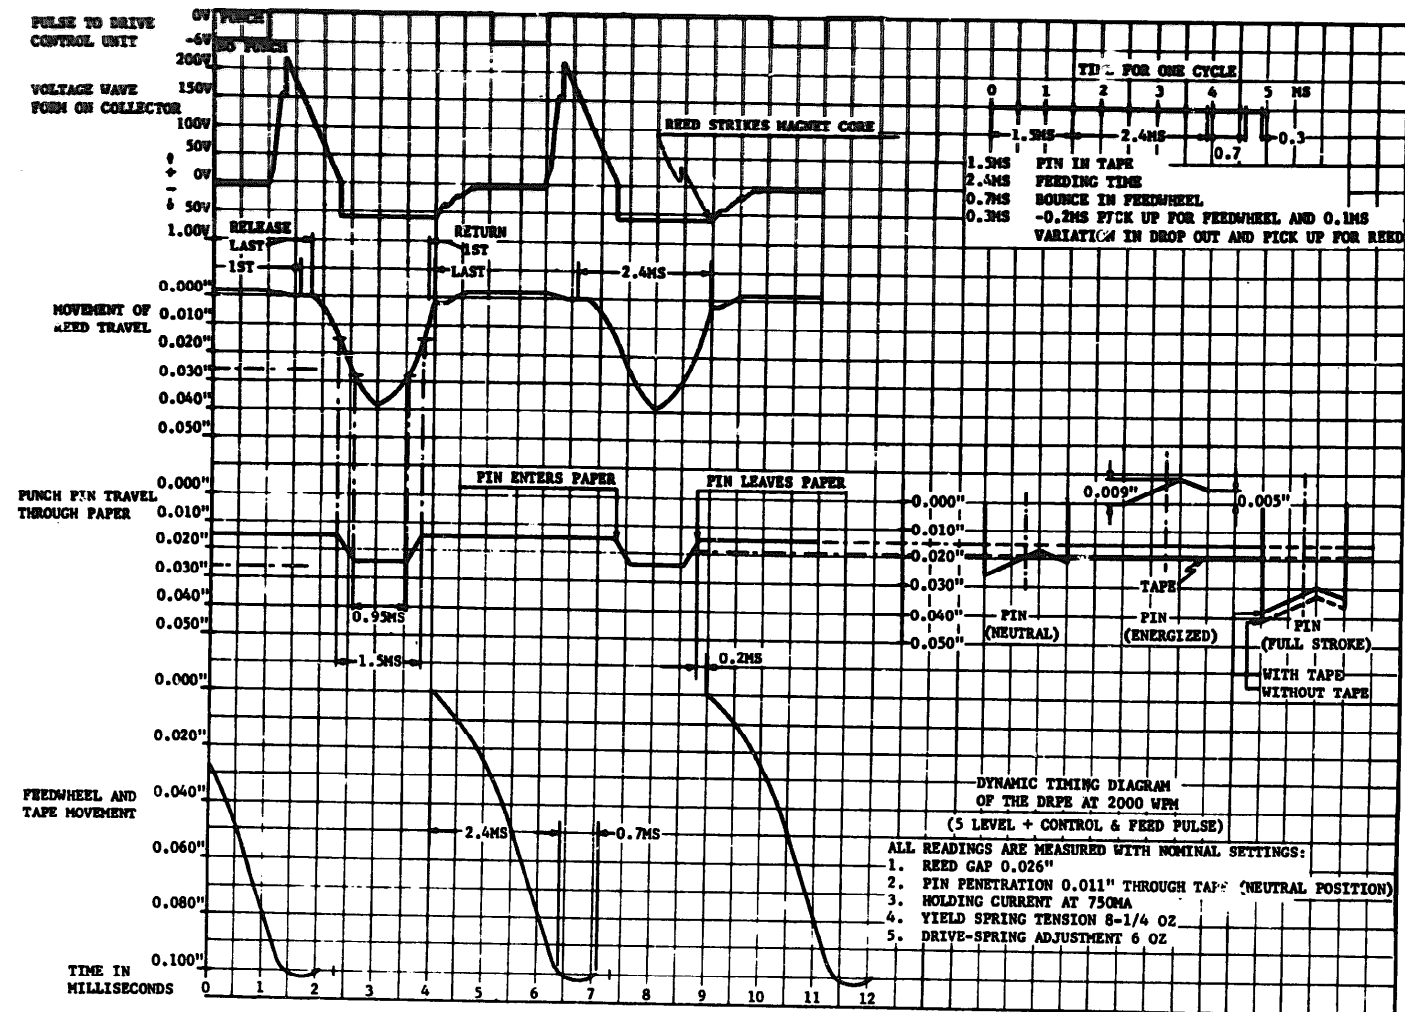

Figure 6- Typical Dynamic Timing Diagram
2.04 Signal code input to the punch is binary and parallel. Any code pulse combination and the control and tape feed pulses are simultaneous. These consist of shaped current pulses and a steady holding current (Figures 6 and 7). This input is provided by the electronic equipment mentioned in 2.03. Output from the unit is perforated paper tape. When released by a signal, the strain energy that has been stored by electro-magnets in the steel tuned reed armatures, is utilized to operate the punch pins and to trigger the escapement mechanism that feeds the tape.
RECEIVING SIGNALS (Figures 6, 7, 8, and 9)